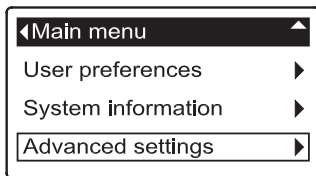

FIG. 126
1. From any of the rolling status screens, press the SELECT (O) button to display the **Main menu**.
2. Press the DOWN (▼) button to scroll through the menu options until **Advanced settings** is highlighted (See Figure 126).